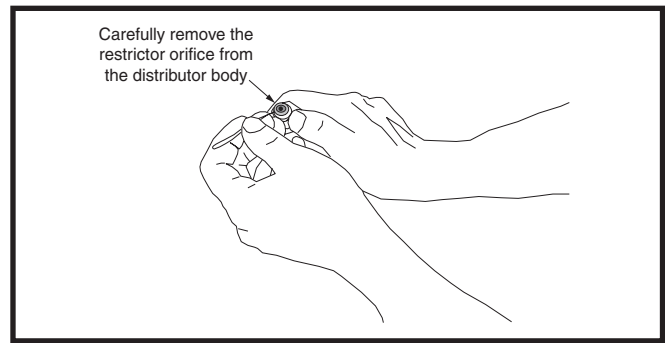

Figure 7. Removal of Orifice
2. Insert a light-gauge wire hook between the distributor body and the restrictor orifice while being careful not to scratch either part. Carefully remove the restrictor orifice from the distributor body. See Figure 7.